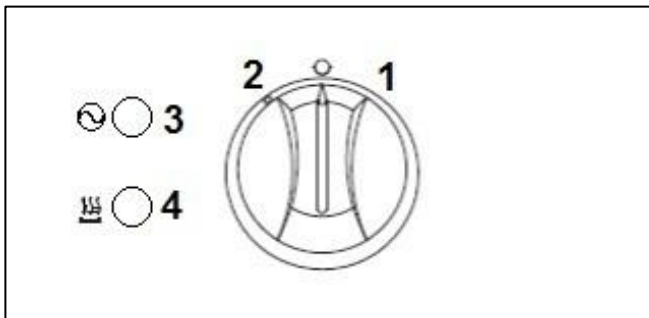

Figure 2 – E3840/E3840F Control Panel
3.3.1 E3840/E3840F Fryer Control Panel (See Figure 2).
3. Start Button: Fryer has a start button. Once operator has established there is sufficient oil in the pan, pushing will engage the controller. (See fig. 2 or 3)